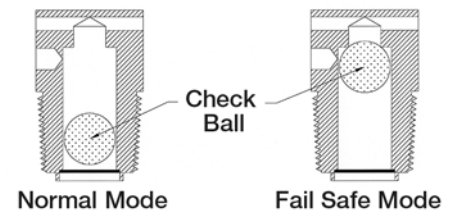

Fig. 4-82
d) The vent-limiting orifice (Fig. 4-82) is a fail-safe device that permits free air movement above the diaphragm during normal operation. In the unlikely event of a diaphragm rupture, the vent limiting orifice will limit gas escapement to 1.0 CFH natural gas at 2 PSI and 0.65 CFH LP at 2 PSI. Both values are below the ANSI standard of 2.5 CFH. Note: The vent-limiting orifice does not allow gas to escape to the environment during operation.